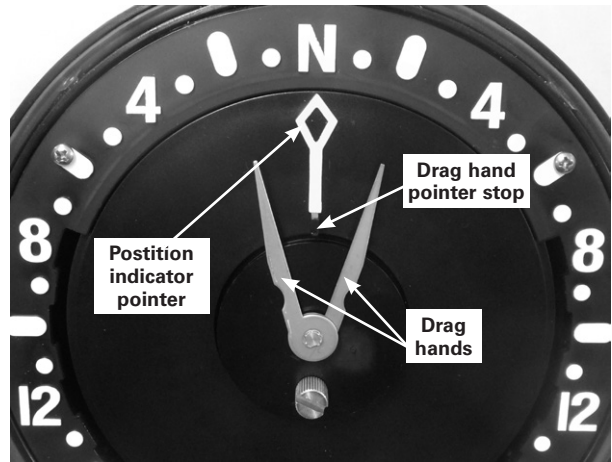

Figure 6. Drag hand positioning
- Open up the drag hands on the module so that they will fall on the proper sides of the indicator pointer. See Figure 6.